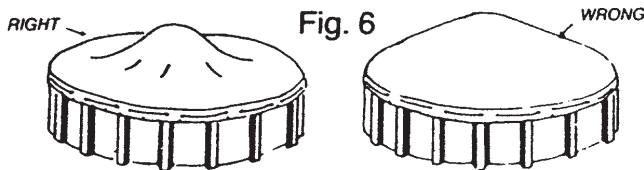

Fig. 6
5. Before placing cover over the pool, pool water should not be less than 6" from top of pool. Where a through-the-wall skimmer is used, cover up the skimmer opening. Inflate flotation pillow (available from your dealer) and secure the pillow in center of pool by tying grommets with nylon rope to pool sidewall. Place the cover over pillow to form a loose pyramid letting the cover fall on the water around the circumference (See Figure 6). Pull end of cover over pool wall. It is important that the cover fits snugly against the wall to prevent wind from getting under the cover and causing the cover to billow and flap. Caution, such billowing and flapping can cause serious damage to the cover. If you cannot get a snug fit you must block any openings between the cover and the pool wall.